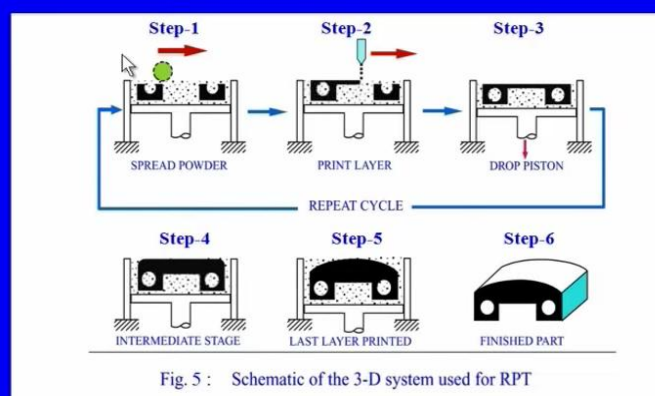

Fig. 5 : Schematic of the 3-D system used for RPT
- A schematic of the 3D processing steps is shown in Fig.5.